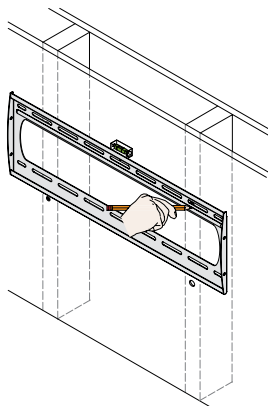

Figure 6. Marking the Upper Mounting Locations
6. Use a pencil to mark the upper right mounting location along the center of the wall stud (Figure 6).